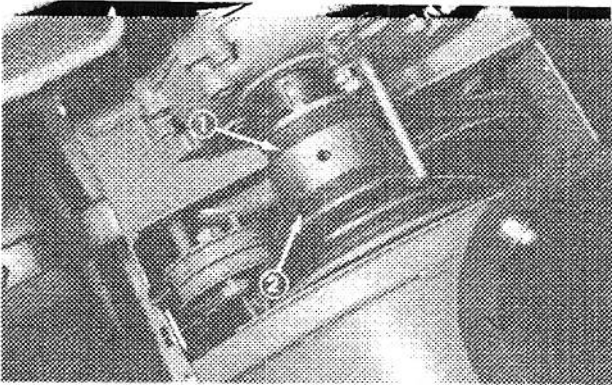
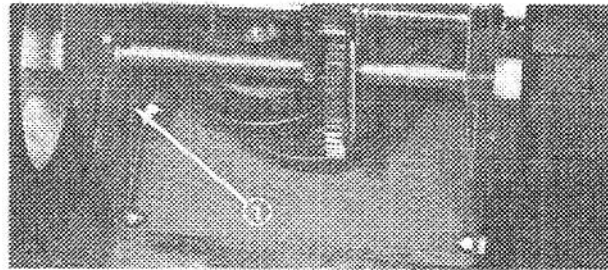

Figure 29
Figure 30
3. Remove auger drive belt from engine pulley and large auger/impeller pulley (Fig. 29).
4. Install new belt around large auger/impeller pulley (Fig. 29). Next, loop belt over engine pulley, making sure that belt is on inside of idler pulley and wire belt guide (Fig. 29).
4. Tip snowthrower onto auger housing and block it so it cannot fall. Remove rear shield and disconnect spring from side plate (Fig. 30).
5. Set unit upright and remove traction drive belt from engine pulley and large traction pulley (Fig. 29).
6. Install new belt around large traction pulley (Fig. 29). Next, loop belt over engine pulley, making sure that belt is on inside of traction idler pulley and wire belt guide (Fig. 29). Tip snowthrower onto auger housing, block it and hook spring onto side plate (Fig. 30). Replace rear shield and set unit upright.
7. Replace auger/impeller drive belt: refer to Replacing Auger /Impeller Drive Belt, item 4-5.